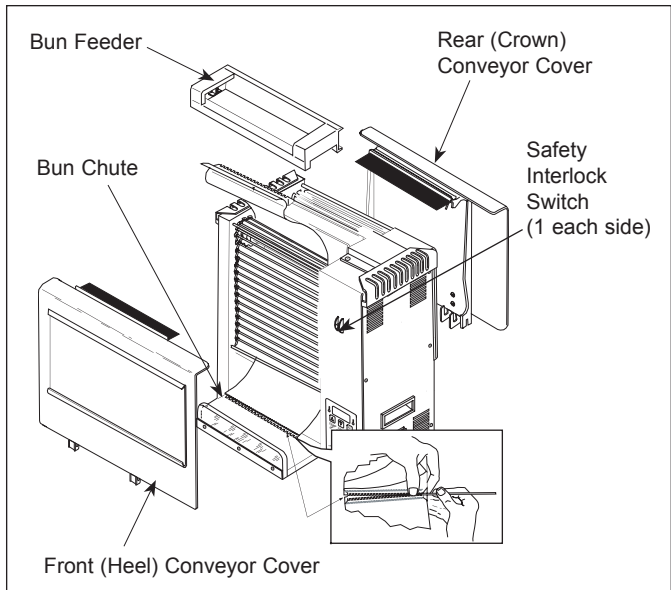

Figure 8. VCT-250
NOTE: Make sure both Conveyor Safety Interlock Switches are activated when the covers are installed (Figure 8) or the conveyors will not rotate.
4. Locate the Hinge Flap on the Front Belt Wrap, if the Hinge Flap is not visible; plug in the power cord and turn the unit on, press down on both Conveyor Safety Interlock Switches (Figure 8) and wait until the flap is exposed and centered. Then turn the unit off and unplug the power cord.